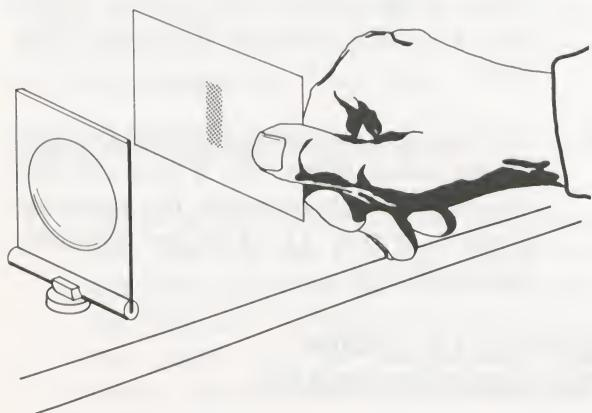

Figure 9. The beam can be followed from source to screen using this method. The maximum amount of light should be transmitted by each component.
- B. You also want the lens to focus the most light possible. Find the beam of light coming from the slit by letting it hit another 3×5 index card you hold. See Figure 9. Make sure that the lens is in the center of this beam. If it isn't, slide it sideways into the center, but do not move it any closer to the slit.